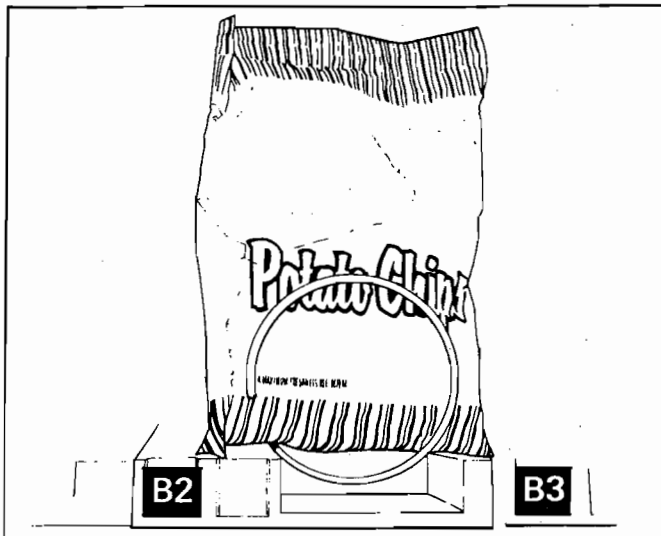
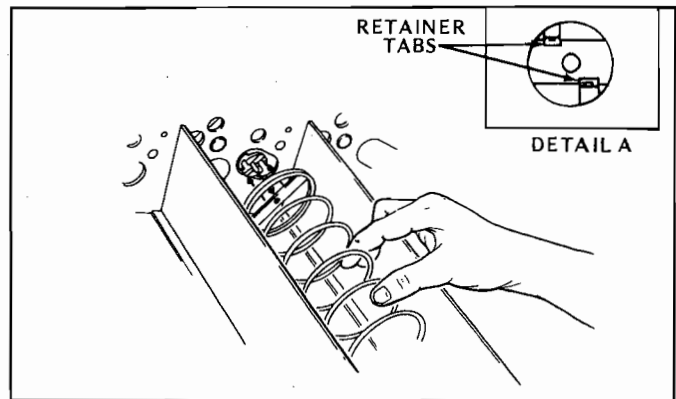
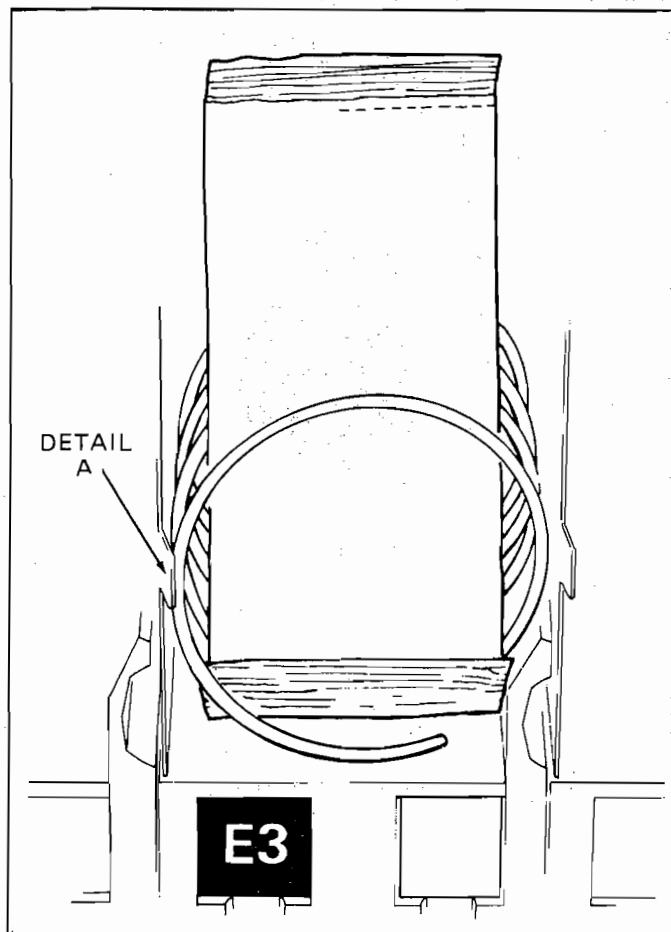

Figure 2. PLACEMENT OF PRODUCT ON MAIN PRODUCT SNACK SHELVES AND FRONT END POSITION OF SPIRAL.
Figure 3. REMOVING AND INSTALLING SPIRAL.
Figure 5. PLACEMENT OF PRODUCT ON MAIN PRODUCT CANDY SHELVES AND FRONT END POSITION OF SPIRAL.
IMPORTANT: Product must not be forced into the spiral spaces but should fit freely. If the product is too tight, use a larger pitch spiral. The bottom of the product should be placed on top of the spiral wire that rests on the shelf surface (see Figure 2). The width of the product must be greater than the diameter of the snack spiral. If it is smaller, the product may fall through when it is in the front, ready to vend position.
4. REMOVAL OF SPIRAL: To remove the spiral, grasp the spiral near the rear of the shelf and pull forward. To install a spiral, align the hole in the cross strap, at the rear of spiral, with the motor shaft. (See Figure 3). Be sure the front end of the spiral is positioned properly (with the
front end of spiral pointing downward on the left side) (see Figure 2); align strap between retainer tabs on spiral retainer (see Detail A, Figure 3) attached to motor shaft, push spiral to rear until both tabs snap over strap (see Figure 3). Give a light forward pull on front of spiral to check if it is locked in place.
6. **LOADING MAIN PRODUCT CANDY SHELVES:** The 8-selection (candy type) shelves are loaded similar to the 4-selection shelves except that the bottom of the product sits on the shelf in front of the spiral wire (see Figure 5) that rests on the shelf. These products must also fit prop-
erly in the spiral space; do not force product into spiral. These spirals are removed and installed the same as the large spiral (see Figure 3); except that the front end position is different (approximately 5 o'clock) (see Figure 5) and the front left side of the spiral must be behind the small tab located on the left side of the product space side wall (see Figure 5, Detail A).